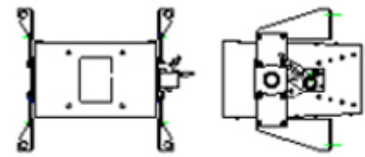

Figure 2: Gap-Fired Mounting
- Burners can be equipped with gapped or sealed flange-type mounting (refer to Figures 2 and 3).